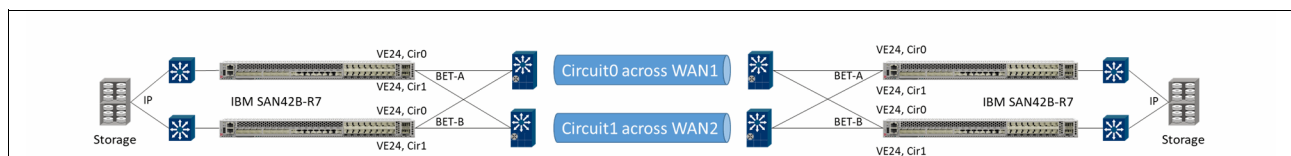

Figure 7-5 IP Storage LAN connectivity to IP Extension
In the case of L2 deployment, configure the IP storage with the IP Extension Gateway as the next-hop for replication traffic. The IP Extension Gateway is configured on a DP (DP0 or DP1) owning the VE_Port of the tunnel. The IP Extension Gateways are a LAN side IPIF specific to a DP. The same IP Extension Gateway cannot be configured on more than one DP on an Extension Platform. An IP Extension Gateway configured on multiple platforms will cause an IP address conflict on the data center network. Based on the next-hop configured on the storage end device, the end device learns the IP Extension Gateway's MAC address through an ARP or Neighbor Discovery (ND) request. See Figure 7-5,
As shown in Figure 7-5 above, the IP storage is connected to the IP Extension LAN side interfaces by a Layer 2 LAN switch. At least one IP Extension Gateway (LAN side IPIF) must be configured to receive the replication traffic on the LAN network. For a Layer 2 architecture, each connected VLAN requires a LAN-side IPIF used as an IP Extension Gateway. The LAN side IPIF should have an IP address on the same subnet as the end device and the same VLAN ID as the connected Ethernet network.